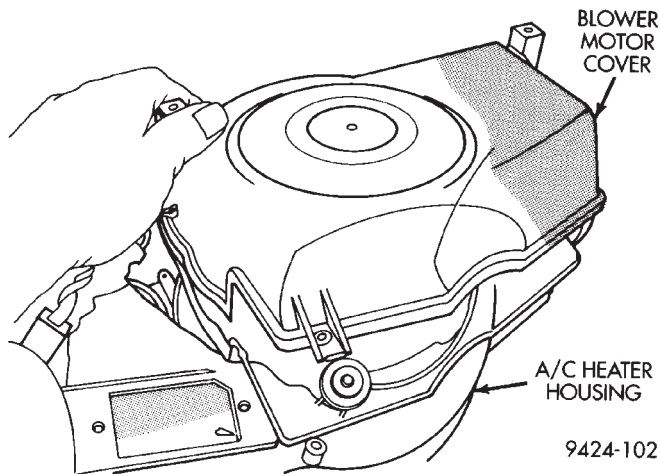

Fig. 91 Blower Motor Cover
(18) Thread the blower motor wiring through the blower motor cover. Install the blower motor cover (Fig. 91).